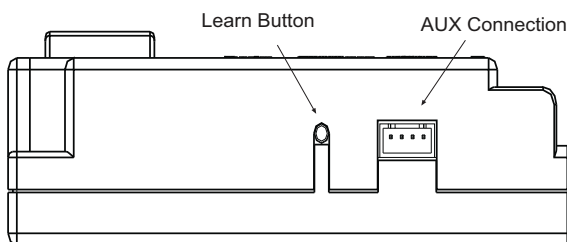

Figure 27 - Gas Module Left Side
- To program the module (make sure the system has power), locate the learn button (**Figure 27**) on the module. Locate the metal shield that is covering the module and remove the screw on top. Use a small thin object like a paper clip (not sharp points) to press and release the learn button. There will be a beep sound from the module. Then press any button on the remote transmitter. Once the module's internal receiver accepts the transmitter code, there will be a series of confirming beeps.